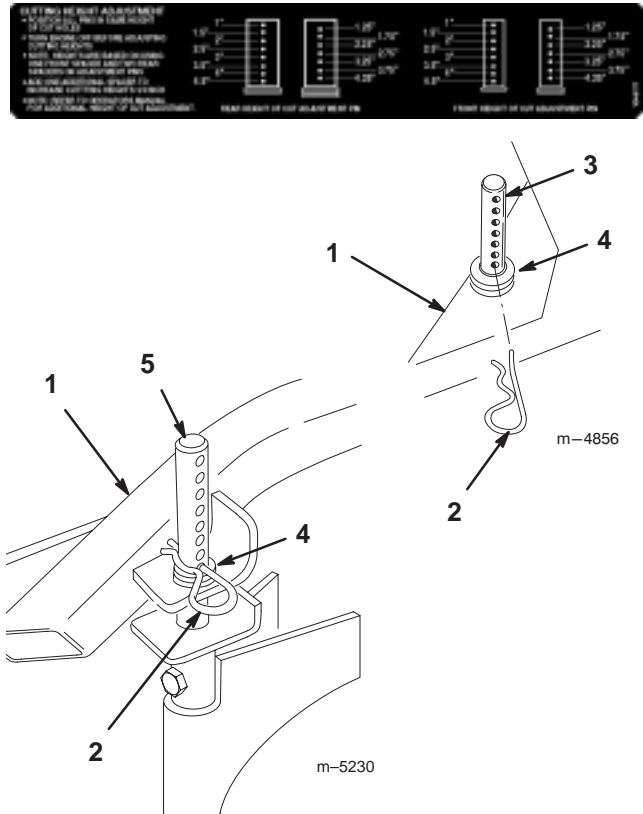

Figure 18
1. To adjust, remove hairpin cotter from height-of-cut post (Fig. 18).
2. Select hole in height-of-cut post corresponding to the height-of-cut desired (Fig. 18).
3. Lift on side of deck and remove hairpin cotter (Fig. 18).
4. Add or remove spacers if needed and then align holes and insert hairpin cotter (Fig. 18).